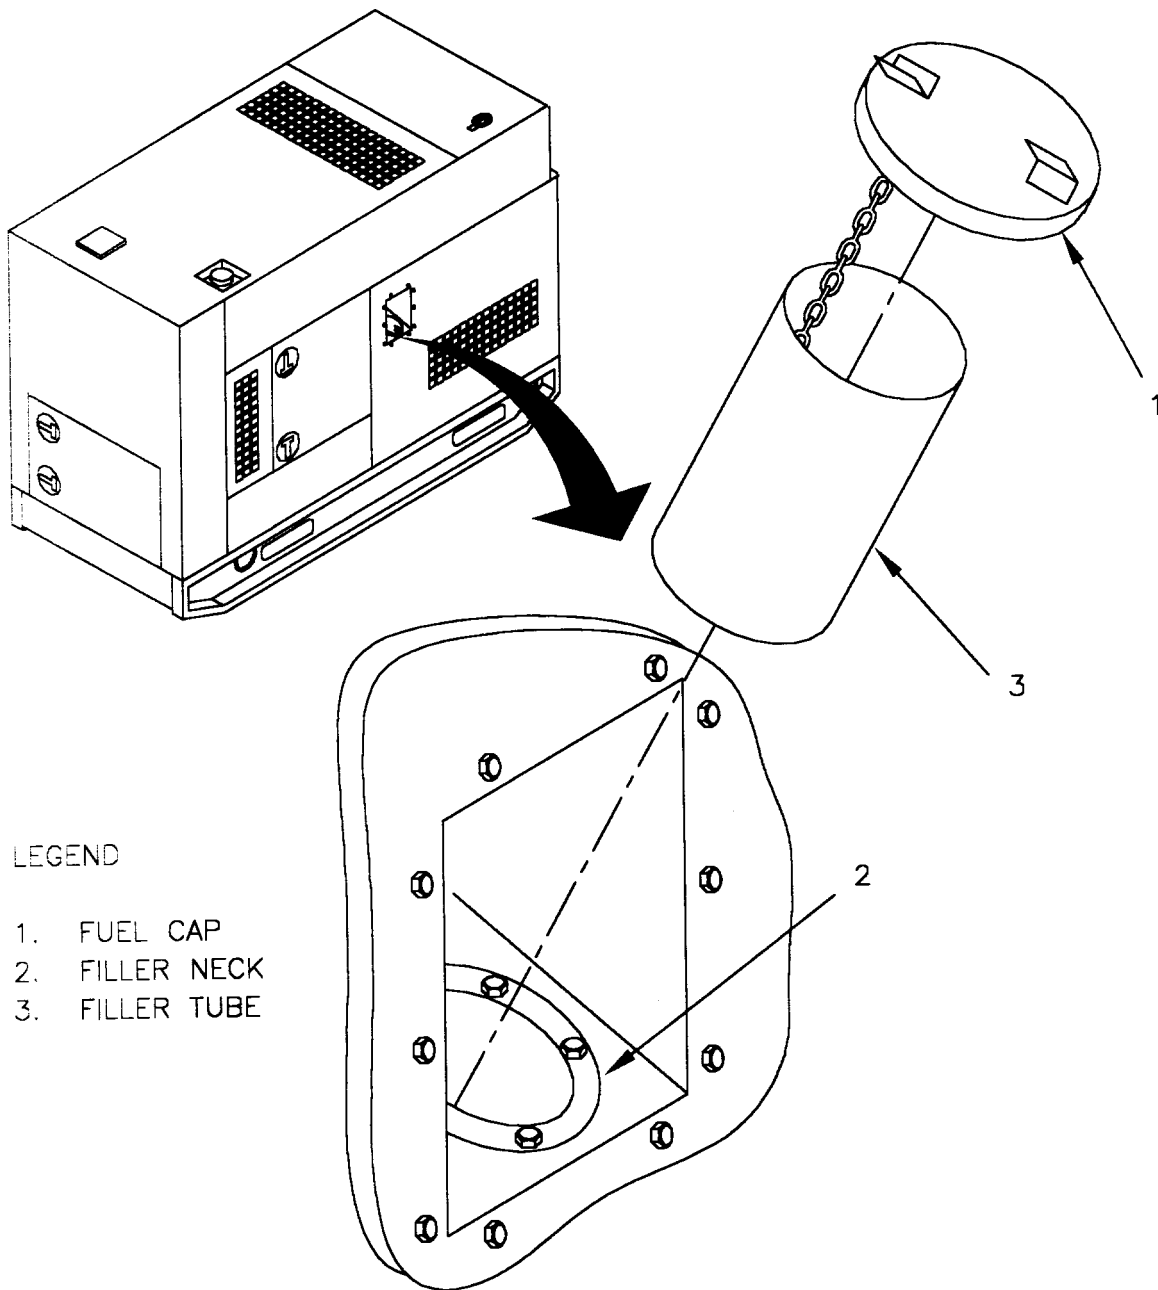

FIGURE 3-4. FUEL TANK FILLER NECK
- (6) Remove fuel cap (1, Figure 3-4) from filler neck (2) on left side of generator set housing.
- (7) Check fuel strainer in filler tube (3) for dirt and other foreign material.
- (8) Install fuel cap (1) on filler neck (2).
- (2) Remove fuel cap (1, Figure 3-4) from filler neck (2) on left side of generator set housing.
- (3) Remove filler tube (3) from filler neck (2), clean strainer as necessary, and reinstall filler tube.